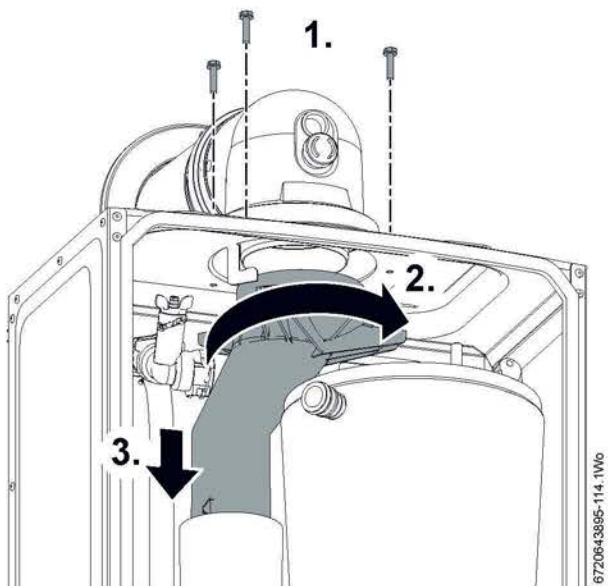

Fig. 89 Upper exhaust assembly
1. Refer to figure 89 and re move the three screws securing the turret to the top of the boiler.